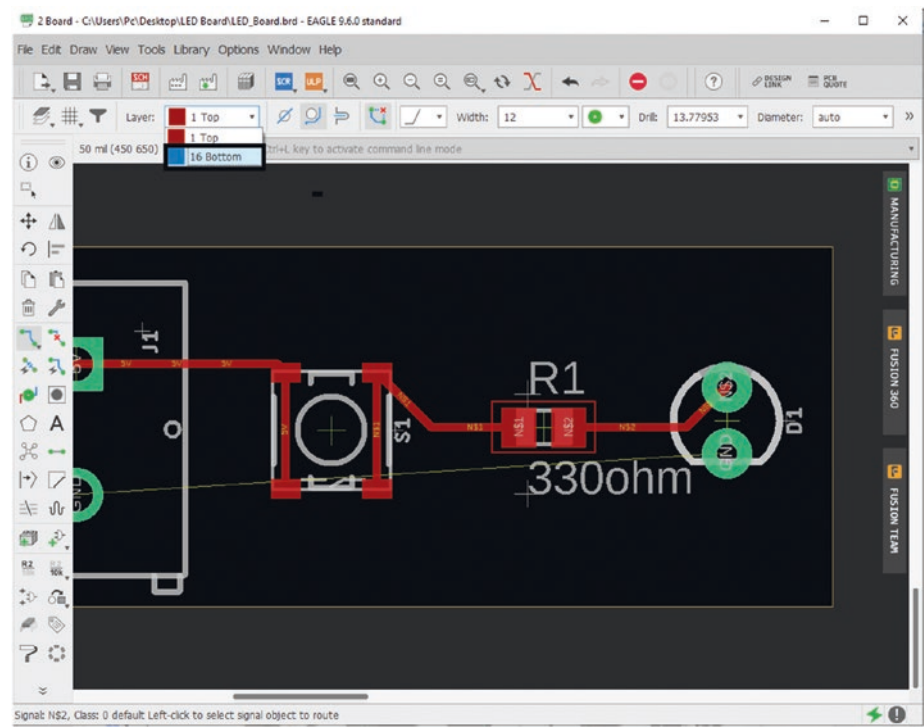

Figure 5-76. Select the bottom layer
- 25. To select the bottom layer, go to the top and change the “Layer:” drop-down to “16 Bottom.” See Figure 5-76.